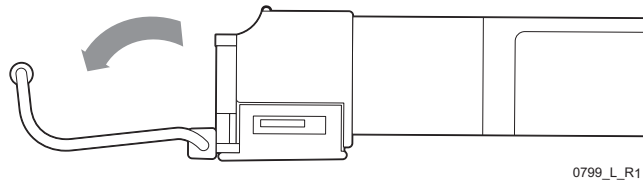

Figure 12-2. Lower the SFP Latch
- 3 Lift the retaining clip and gently slide the SFP module out of the port as shown in Figure 12-2.